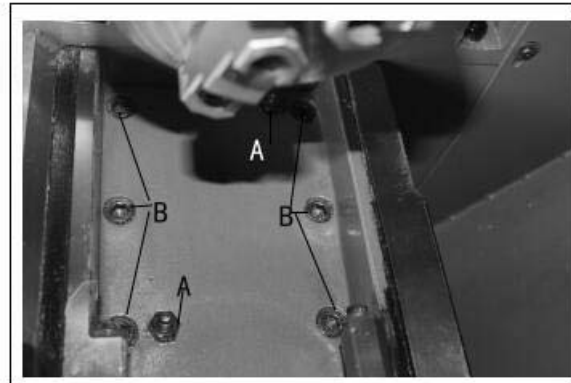

Figure 26
1. To remove gap section, locate two nuts (A, Fig. 26) in the center of the gap section.
3. Remove six hex socket cap screws (B, Fig. 26) with a hex key wrench.